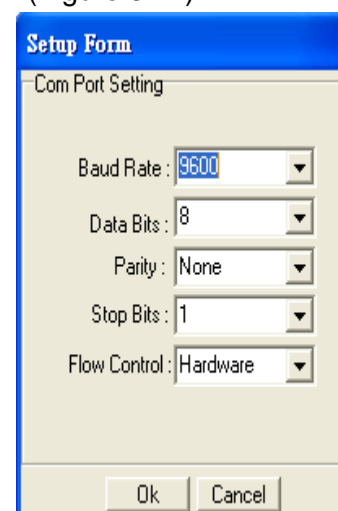

Figure 3-12
- ✓ Press the Port setup button to pop up the setup window for parameter change (Figure 3-12).